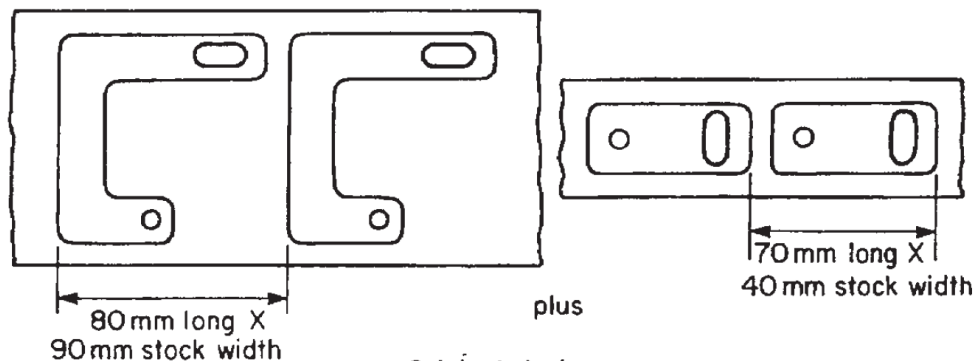

Figure 6
3. Suggest and justify the required modifications on the layout design for components shown in figure 6 for ease of sheet metal processing.